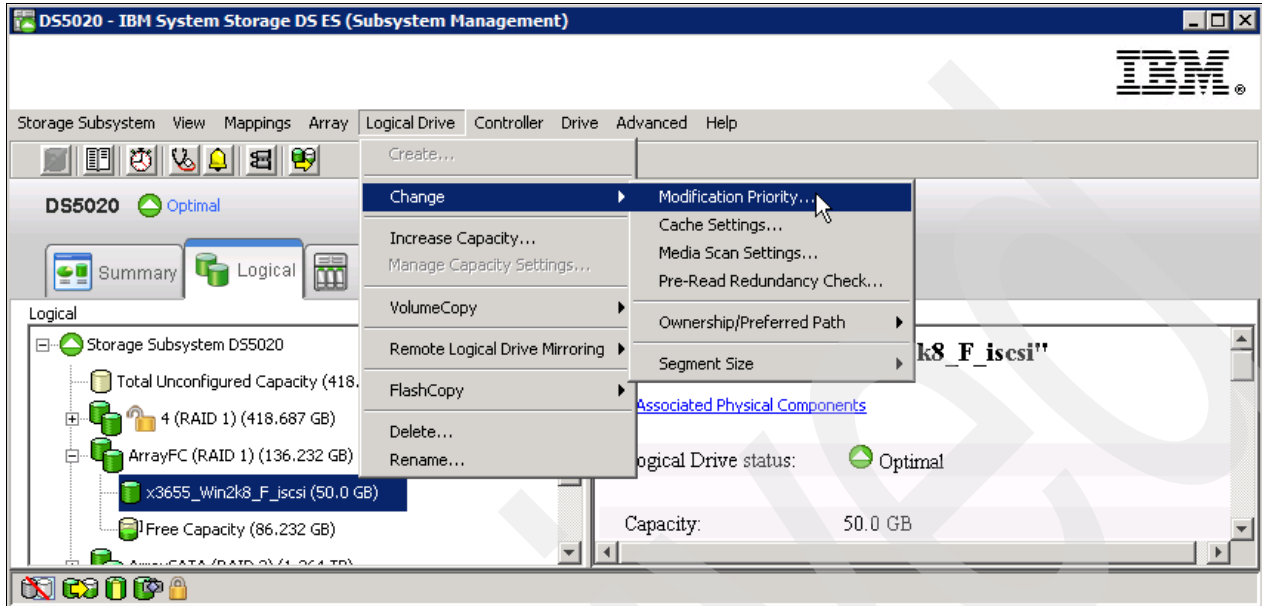

Figure 4-109 Changing the modification priority
1. Select a logical drive, right-click it, and select **Change** → **Modification Priority**, as shown in Figure 4-109.